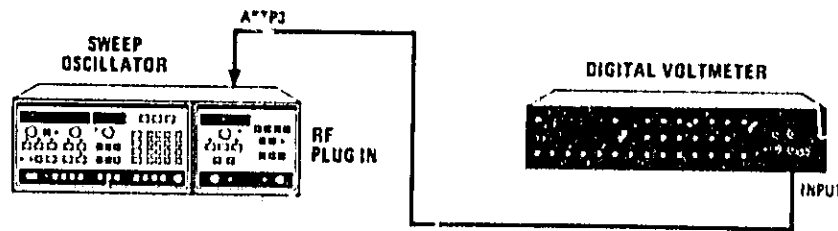

Figure 5-3. -10 Volt Reference Test Setup
1. Connect DVM to A6TP3 (-10V REF) and common to A6TP5 (Figures 5-3 and 5-4).